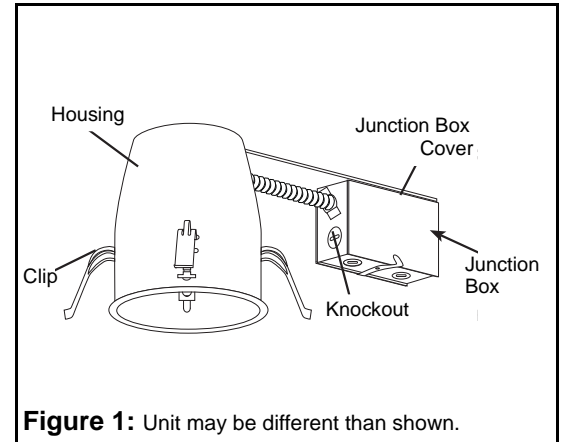

Figure 1: Unit may be different than shown.
4. Remove the junction box cover by releasing the spring. Open the appropriate knockout for the supply wires on the junction box (see fig. 1). Supply wire insulation must be rated for at least 90°C.